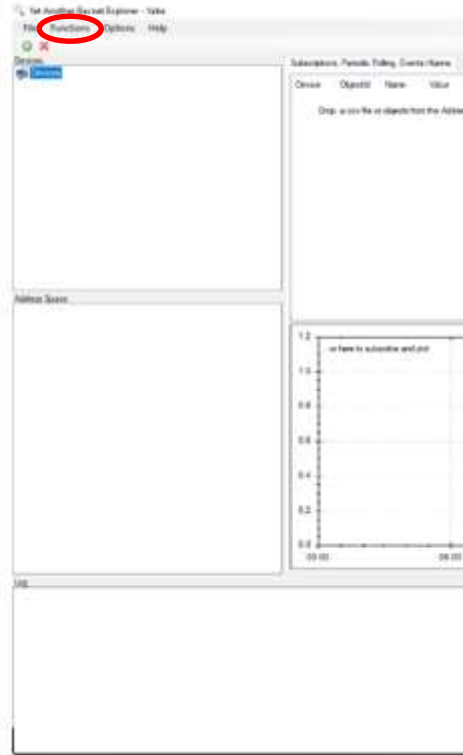
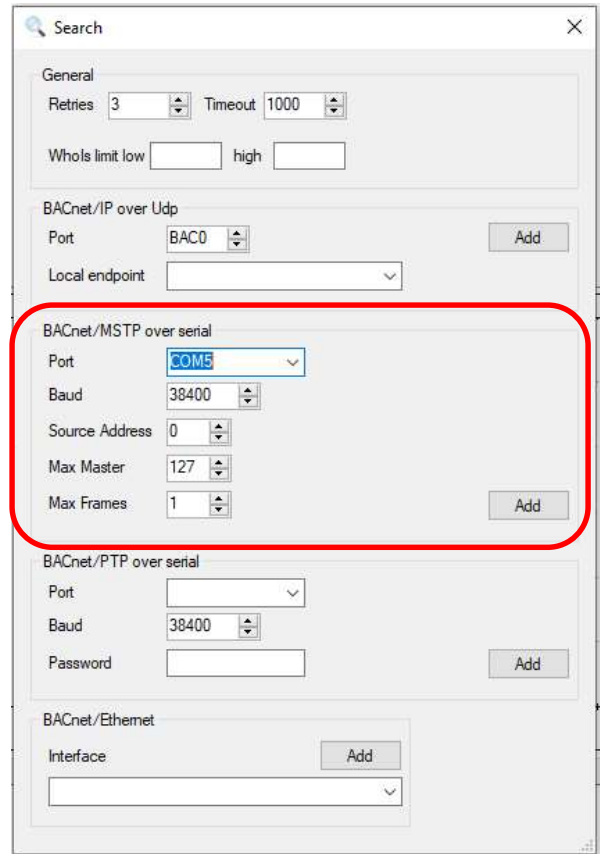

Figure D1
Figure D2
The image in Figure D1 should appear on your screen when the program opens.
Steps 1 – 7 references Figure D1 and Figure D2.
1. From the header bar select *Functions* -> *Add device*, see Figure D1. Figure D2 should open on the screen.